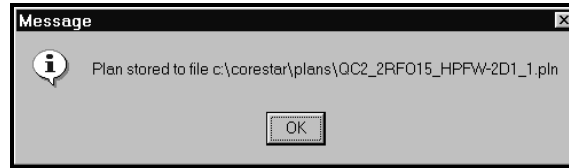

Figure 5-10. Message Dialog
34. The Corestar acquisition software can operate off a plan file generated from DBMS. This is a flat file stored in the `\corestar\plans` directory. To save this file select **File > Save**. A message dialog similar to the one in Figure 5-10 should appear telling you that the file was saved.